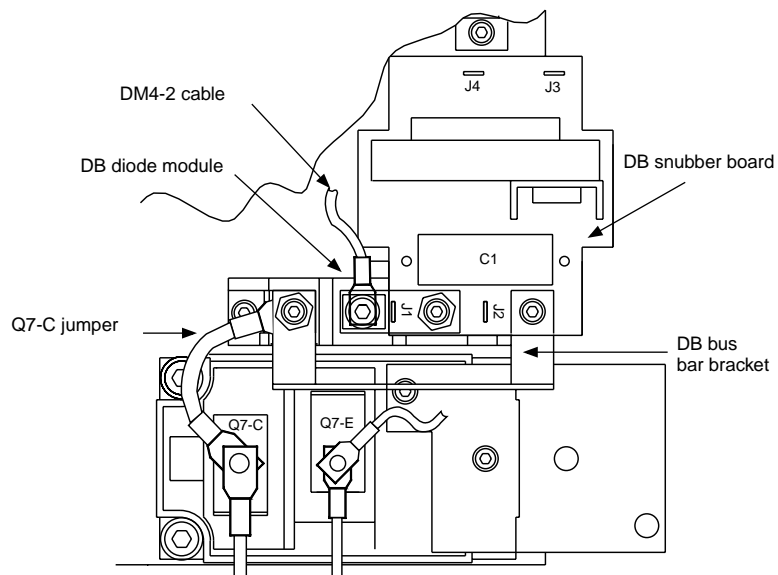

Figure 4.1.19: Top View of DB Module
5. Using a hex key wrench, remove the remaining DB bus bar bracket screw (see Figure 4.1.19). Remove the bus bar bracket.